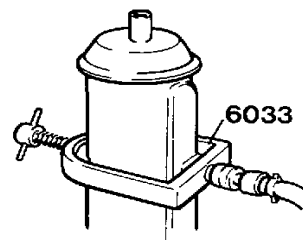

Fig. 109
3. Assemble the pressure-testing equipment 6033 as shown in fig. 109. Check that it is sealed properly against the O-rings.